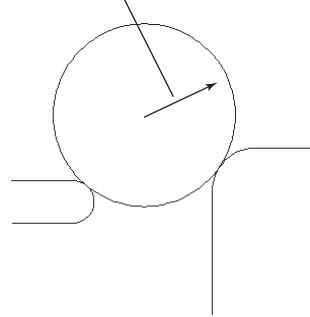

Figure 3.3
3. Select two objects to which the circle is to be tangent, and then enter a radius value (see Figure 3.3).